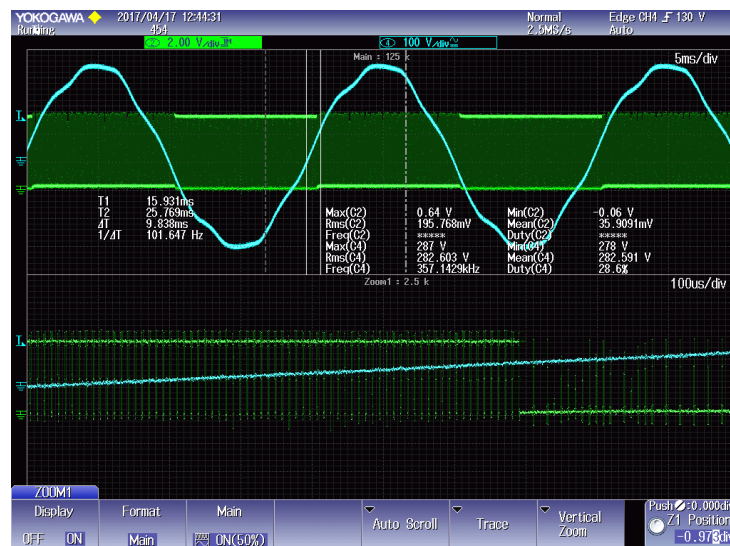

Figure 21: Input voltage (V_{in}) and the PWM top waveforms at $V_{in} = 170$ VAC
- D) Observe the dead band between PWM bottom and PWM top, which should be $10 \mu s$ as shown in Figure 21.